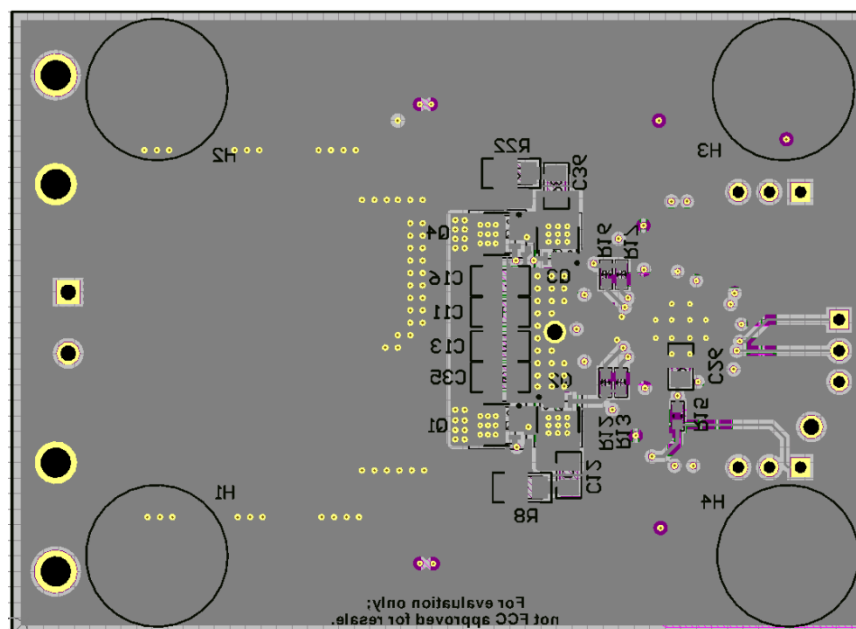

Figure 42. EVM Bottom Layer
- Figure 39 shows the high frequency loops of the synchronous buck converter. The high frequency current flows through Q1 and Q2, through the power ground plane and back to V_{IN} through the ceramic capacitors C6, C7, and C8. This loop must be as small as possible to minimize EMI. Refer to Figure 41 and Figure 42 for the recommended PCB layout.